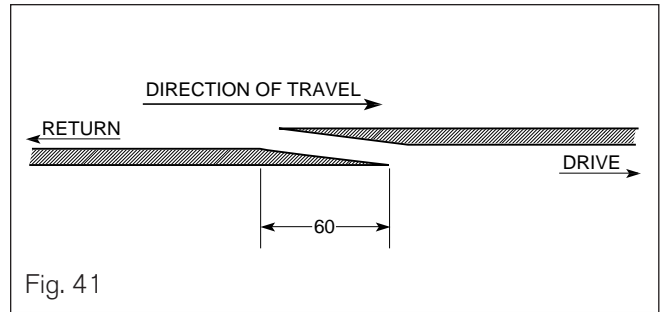

Fig. 41
- 7 Crank the ratchet handle until the beveled belt ends overlap (see Fig. 41 at right) and are ready to be placed in the heating press for gluing.